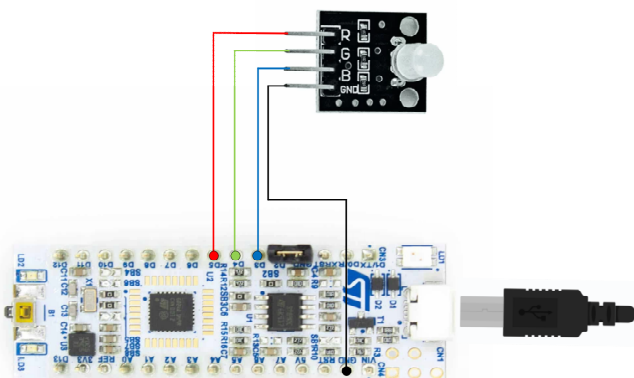

Fig. 1.1. Schematic for controlling RGB LED with STM32NUCLEO-L432KC.
The schematic is presented in Fig. 1.1. Step-by-step instructions for system assembly are as follows.
- (1) Assemble the prototype according to Figs. 1.1 and 1.2.
- (2) Connect the ground pin from the LED module to the ground pin from the microcontroller, as shown in Fig. 1.1.
- (3) Connect the microcontroller to the PC via USB cable.
- (4) Open Arduino IDE. Install STM32 MCU based boards library from the Boards Manager in Arduino IDE. In Tools>Board choose Nucleo-32; in Tools>Board part number choose Nucleo L432KC.
- (5) Copy the code listed below and upload it to the microcontroller.